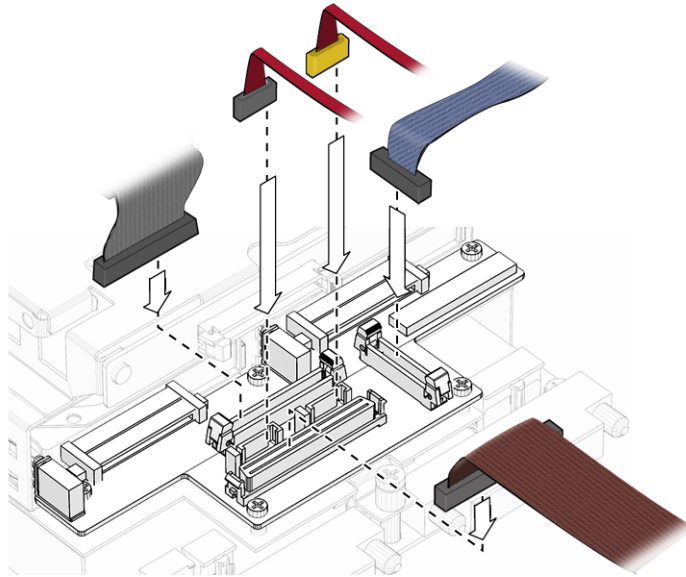

FIGURE 3-15 Connecting the Mass Storage Assembly Cables
5. Connect the following cables to the mass storage assembly (FIGURE 3-15):